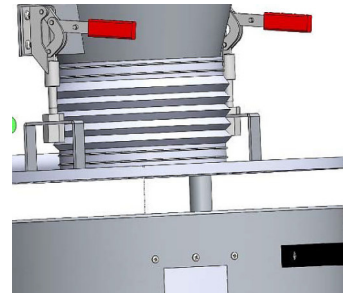

Fig. 15: Clean dust collector
Step 2: Release the quick-release fasteners (Fig.15) to open the container.